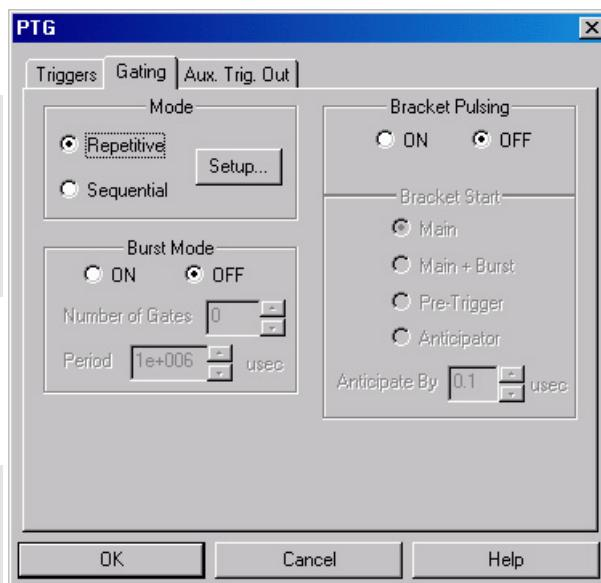

Figure 166. PTG Gating tab page
7. Click on the **Gating** tab (Figure 166).